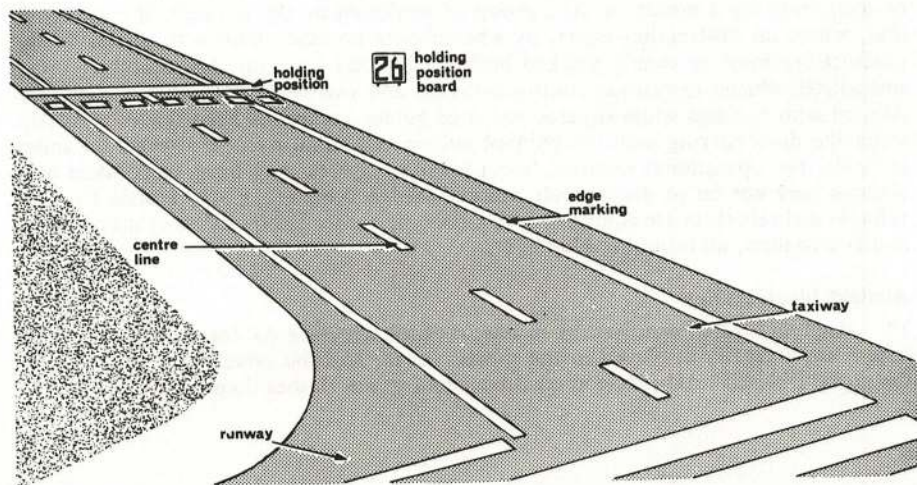

Fig 4 Taxiway Markings
14. **Markings.** Taxiway markings are in *yellow*, as shown in Fig 4 and as described below: